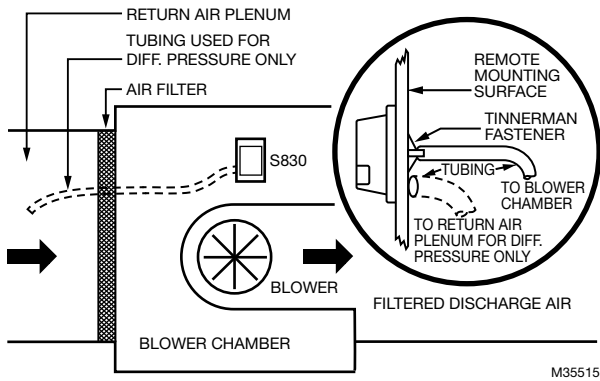

Fig. 1. Mounting location.
The S830 must be located where it can sense pressure conditions in the blower chamber between the filter and the blower. On differential pressure applications, the case and tubing must be located where it can sense the pressure DIFFERENCE between the return air plenum and the blower chamber. See Fig. 1.
2. Select proper mounting template. Fasten template (gummed back) level in the exact location selected for S830 (Fig. 1).